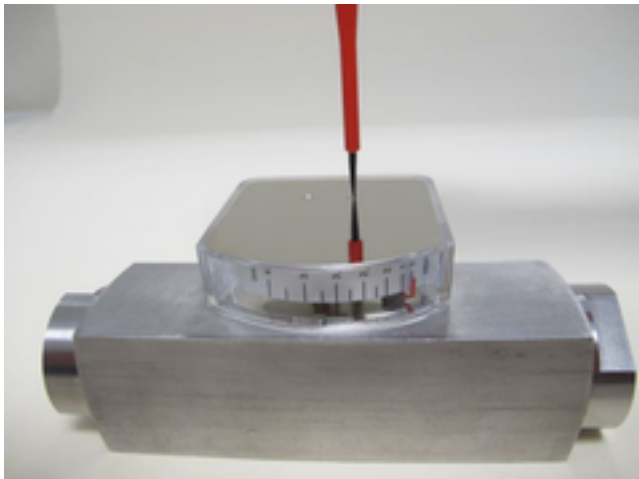

Fig. 77: Tighten the cover plate
27. ▶ Fasten the screws securing the display cover plate, observing the proper tightening torque (*Fig. 77*) (↪ *Chapter 11.1 "Tightening torque" on page 104*).